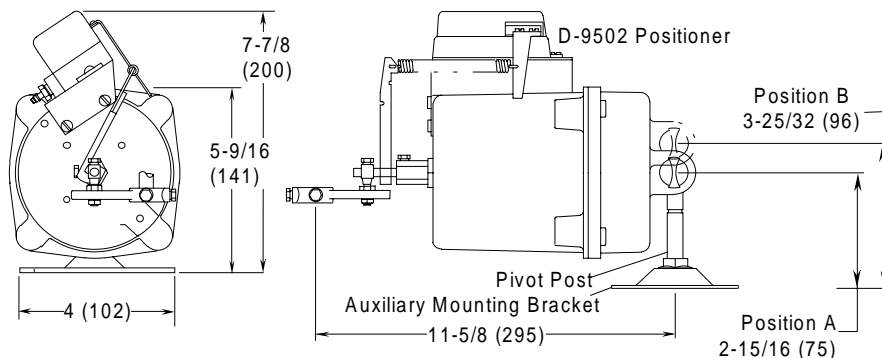

Figure 2: Mounting Dimensions
4. The pivot post location should be within 10 to 16-1/2 inches (254 to 419 mm) (Figure 2) from the blade arm linkage point to use the telescoping piston rod feature of the D-3153. Make sure that the damper blades will clear the actuator when rotated.